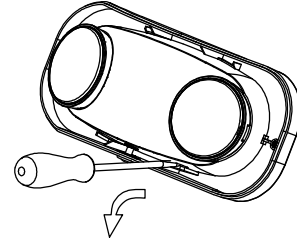

Fig. 2
Wall Mount-Back Power Feed (see Fig 2)
2. Insert a flat blade screwdriver into the two slots and pry off the front cover from the back plate (see Fig 2).